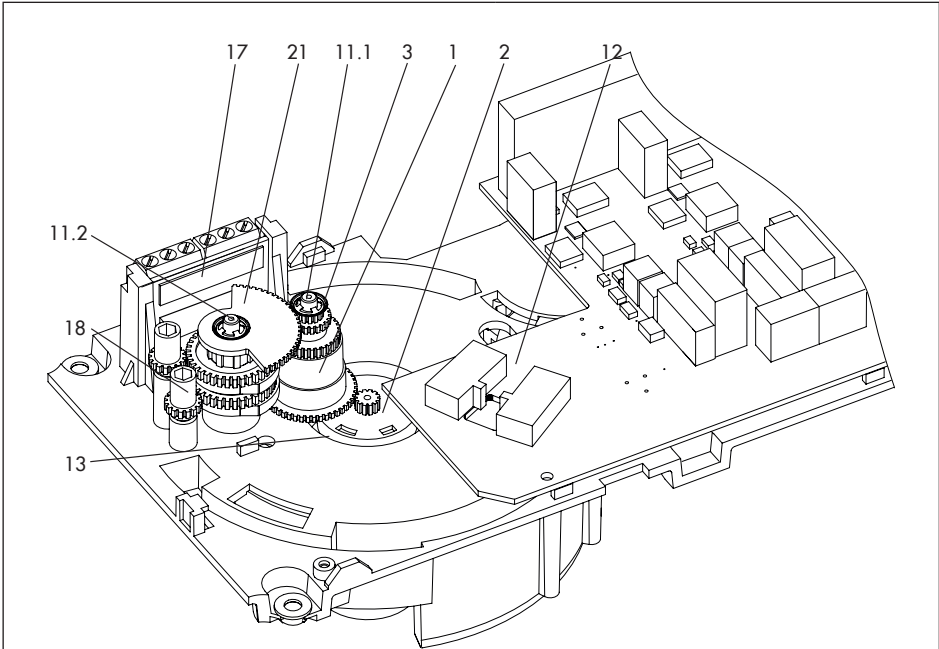

Fig. 5-5: Retrofitting of limit contacts without resistance transmitters
The contact cams (19) are ready-mounted to the cam holder (20) and the retaining rings (9) to form the contact cam unit (21, see Fig. 5-5).
3. Position the terminal board (17, see Fig. 5-5) at the base of the support at a 45° angle (approx.) with the relay pointing towards the edge of the intermediate board. Swivel the upper end of the terminal board until the board is properly engaged.